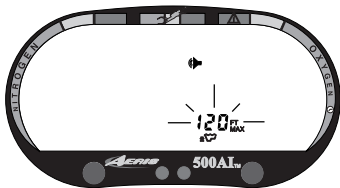

Fig. 21 - Set Depth Alarm
- Max Depth and Audible Alarm icons appear with the Max Depth value flashing (Fig. 21)